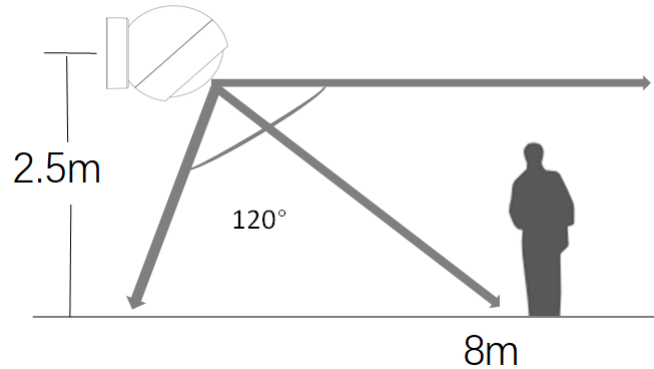

Figure 4
- Install the sensors where persons may be detected to cross. The double sided tape and screws are optional to be used to fix the Magnetic Base on the wall. Recommend to place the sensor approx 2.5 meters above the ground. As shown on below figure 4 and figure 5.